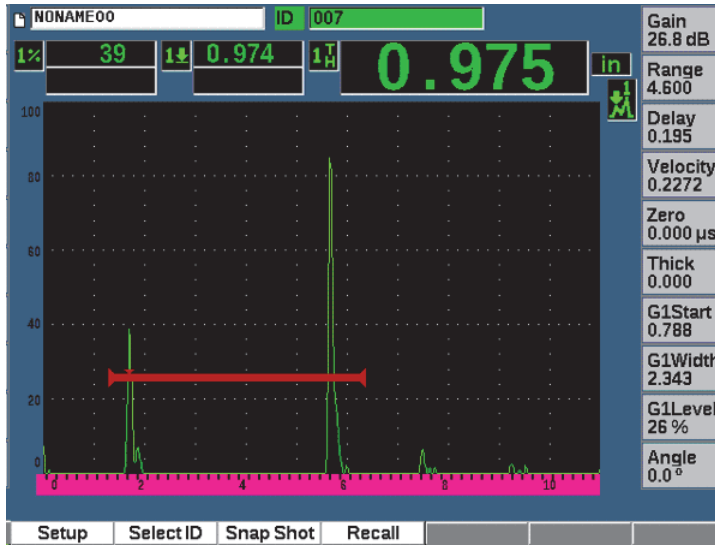

Figure 10-9 Viewing file content (waveform)
2. Press **Contents** (P3 key) to view the saved waveform and the basic setup data. The ID of the file being viewed is displayed at the top left corner of the screen (see Figure 10-9 on page 212).